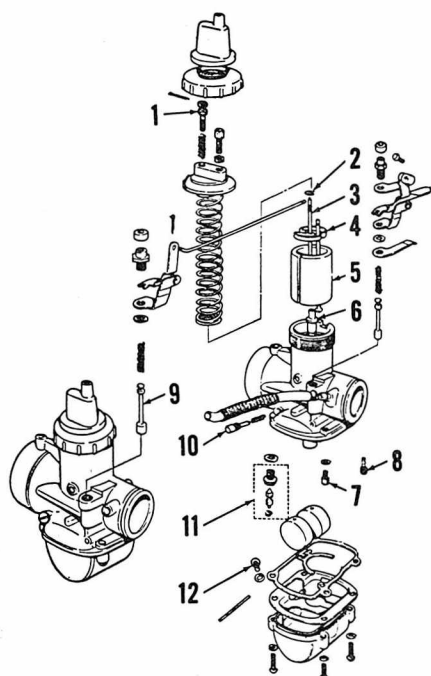
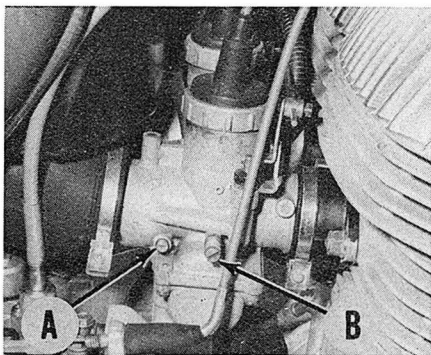

Fig. S7-1 — Exploded view of carburetor used on 500 Suzuki.
Fig. S7-2—Position of carburetor adjustments on later models.
**CARBURETORS.** Two Mikuni sliding valve carburetors are used on all models. Refer to Fig. S7-1 and the following carburetor specifications for appropriate model:
- Main jet (7) .....#410
- Needle jet (6) .....Q-5
- Jet needle (3) .....5 DP 2
- Pilot jet (8) .....#25
- Throttle valve (5) .....2.5
- Clip (2) in second groove from top of needle (3).
chronized to perform properly. Turn pilot air screw (A—Fig. S6-2) in until lightly seated and back out  $1\frac{1}{4}$  turns. Start engine and allow it to reach operating temperature. Stop engine, remove one spark plug wire, restart and adjust throttle stop screw (B—Fig. S7-2 or 1—Fig. S7-1 on early models) until engine is running steadily at slowest possible speed. Turn pilot air screw (A) until smoothest possible operation is attained. Screws should not need to be turned more than one full turn in either direction. Adjust opposite carburetor in like manner and start engine with both plug wires connected. Turn both throttle stop screws an equal amount to obtain idle speed of 1200-1500 RPM.